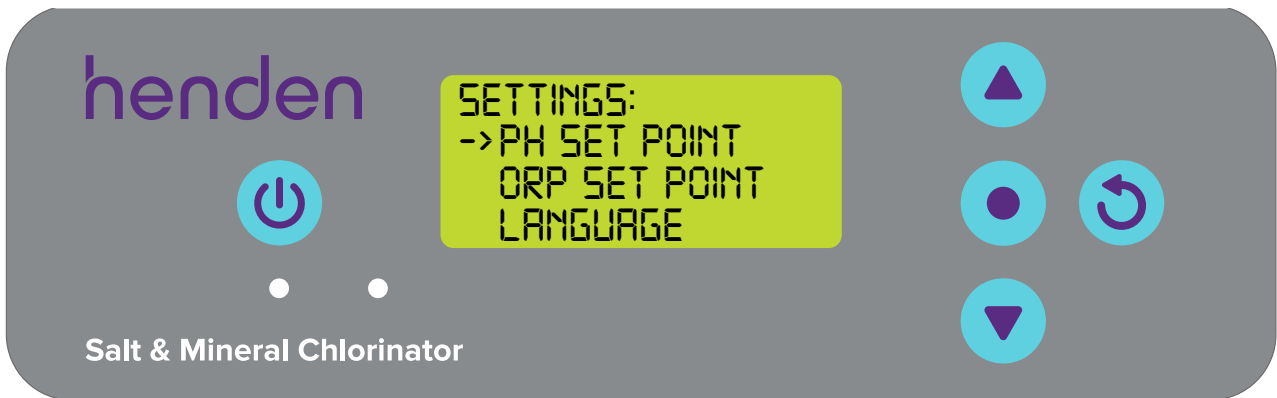

Figure 8.32
- Press the  **menu/setting select** button. This will now show the settings menu (Figure 8.32)